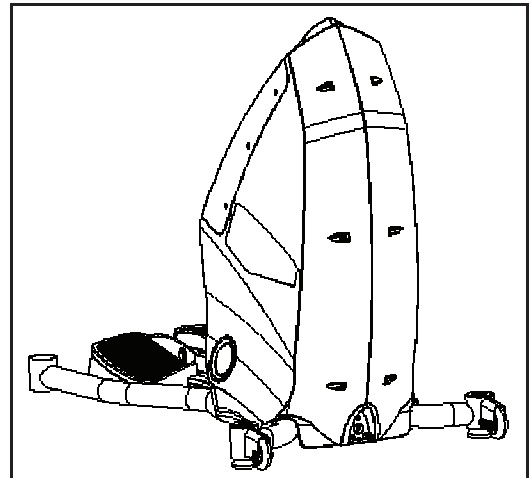

Figure 6
- 4-1** Pull the lower body of the SC916 forward, and with the assistance of another person lift the machine off the shipping pallet and on to the floor (see Figure 6).